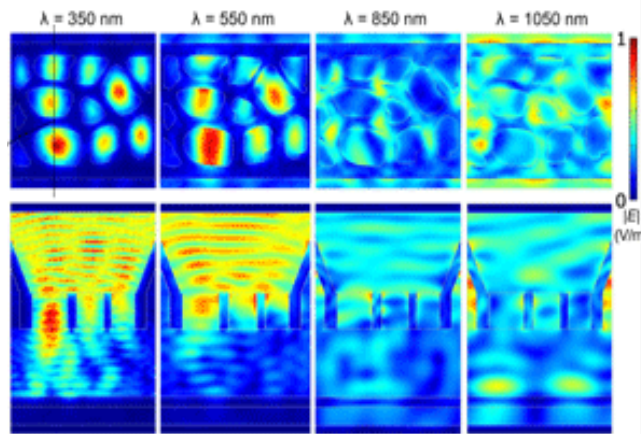

Figure 5 – electric field intensity distribution calculated for normal incidence and wavelengths of 250, 550, 850, and 1050nm (14)
higher than the mean diameter of a nanohole, 850nm being the maximum diameter of a nanohole, 1050nm being the length of several nanoholes and an additional 550nm which is similar to solar irradiance (14). Figure 5 displays the simulated mapping they produced. From these images the team concluded two ways the nanostructures propagate light. The first is ‘vertical channelling’ seen from the 350nm wavelength in which the light travels along the sidewalls of the ridges to the nanoholes where it is then partially absorbed at their surface. This is beneficial as the channelling of the photons allows the mean refractive index of the nanostructures to decrease becoming more similar to air. As a consequence, reflection